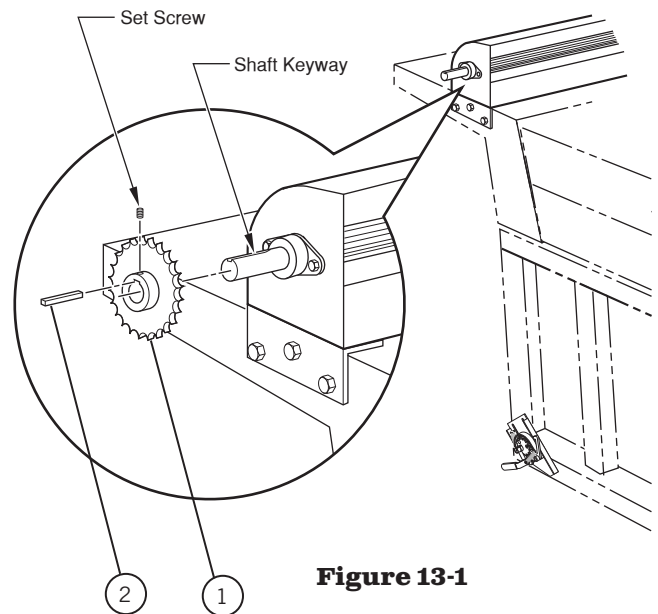

Figure 13-1
- 1) **Figure 13-1.** Slide the sprocket (1) over the outside of the shaft of the driver's side roll up bar. Position sprocket so that it aligns with the crank assembly sprocket.
- 2) Lightly tap the key (2) into the shaft keyway.
- 3) Tighten the Allen set screw on the sprocket until it begins to feel tight. Make sure the screw engages the key (2). Do not over tighten.